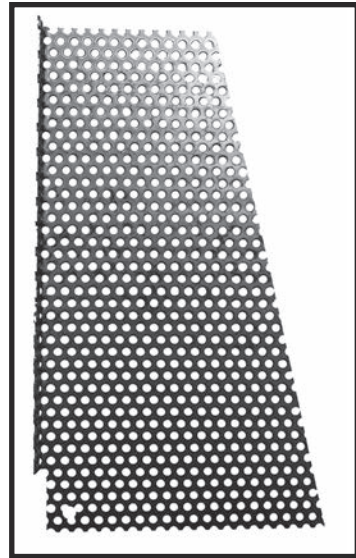
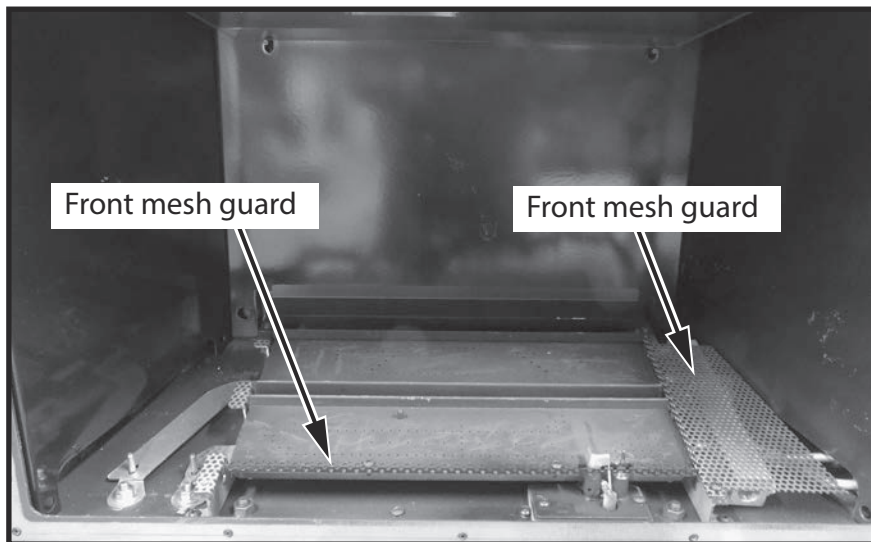

Figure 87: Side mesh guard.
Figure 88: Front and side mesh guards in place.
- Place and secure with a single screw, the side mesh guard (Figure 87) on the right hand side of the firebox as shown in Figure 88.